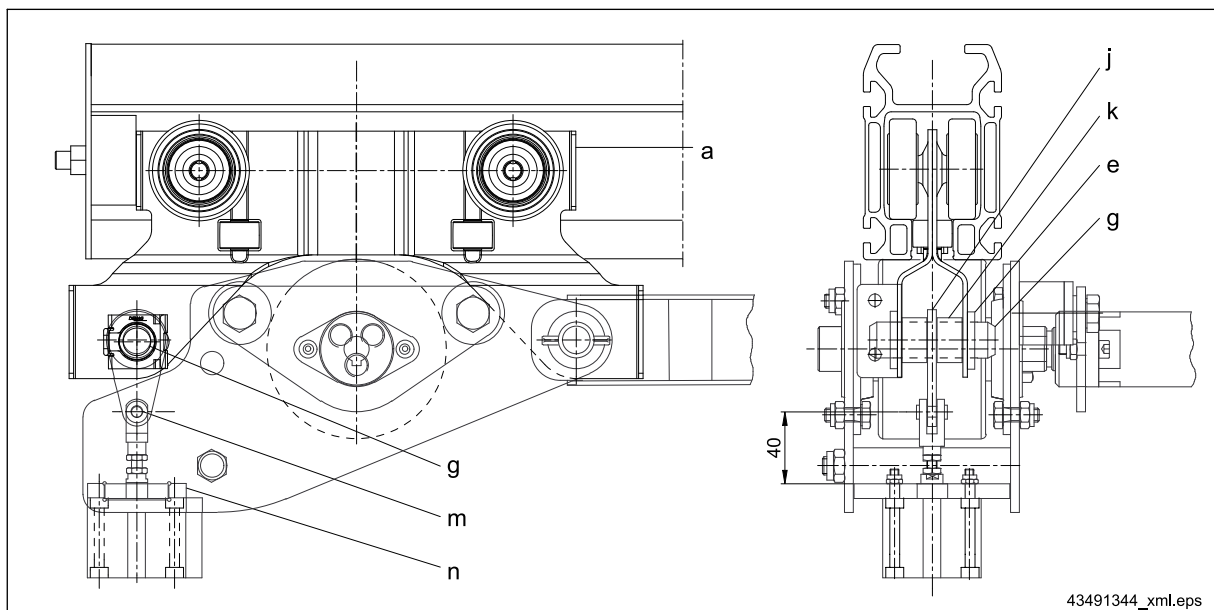

Fig. 46
2. Connect connecting element (j) and the trolley using short pin (g). The arrangement of connecting element (j), supporting washers (e) and spacer sleeves (k) can be seen in ⇒ Fig. 46, Page 54.